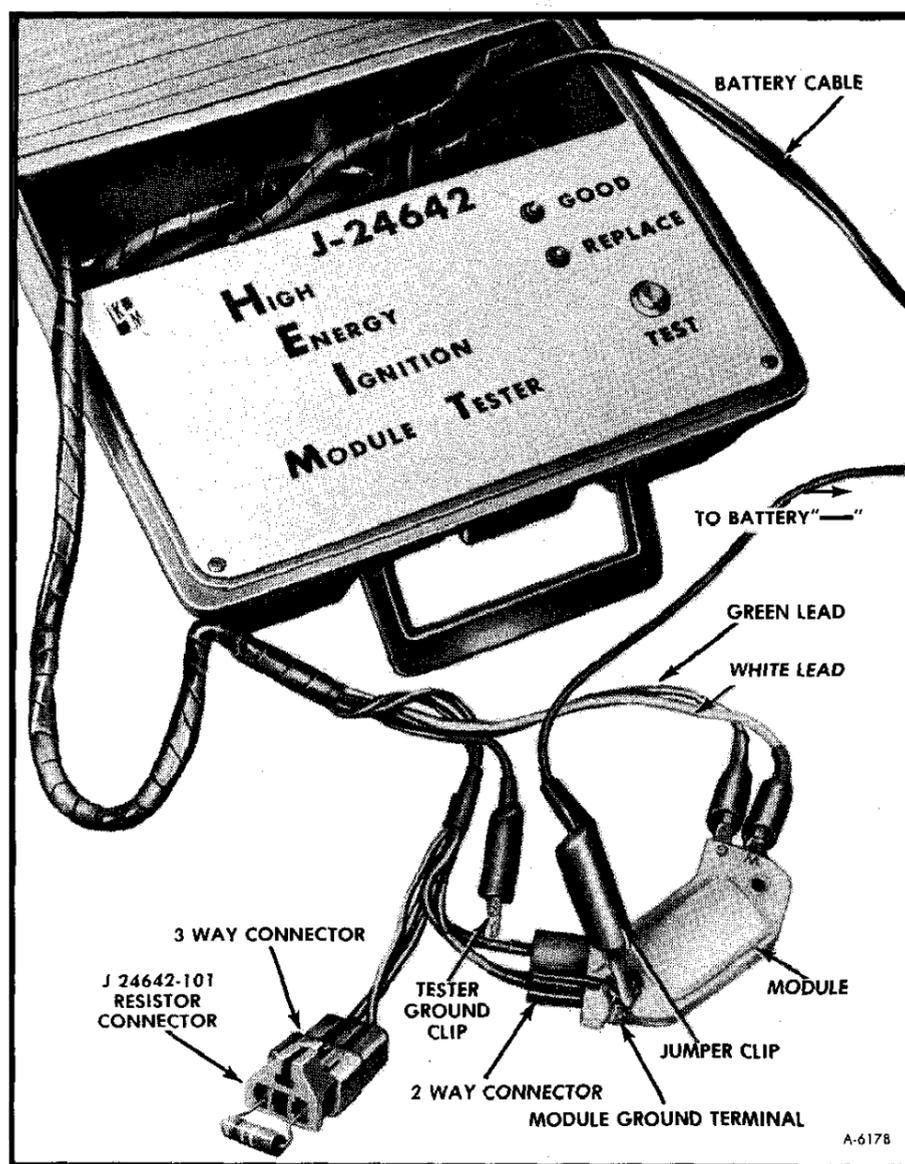

Figure 7—Check No. 4 with J-24642-101
1. From the setup of Check 3, remove the jumper wire. Disconnect the tester ground lead from the module ground terminal. Using a jumper wire, connect the module ground lead to the negative terminal of the battery. Plug the J-24642-101 resistor-connector (or equivalent) into the 3-way connector as shown in figure 7.